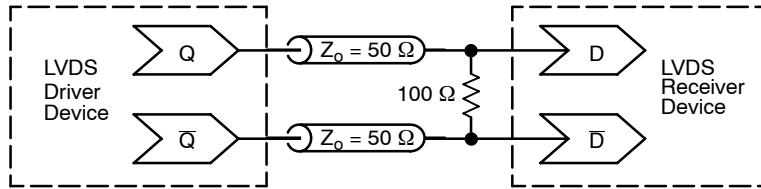

Figure 13. Typical LVDS Termination for Output Driver and Device Evaluation
- LVDS outputs require 100 Ω receiver termination resistor between differential pair. See Figure 13.
12. Measured by forcing $V_{INPPmin}$ with 50% duty cycle clock source and $V_{CC} - 1400\text{ mV}$ offset. All loading with an external $R_L = 100\ \Omega$. Input edge rates 150 ps (20%–80%). See Figure 13.